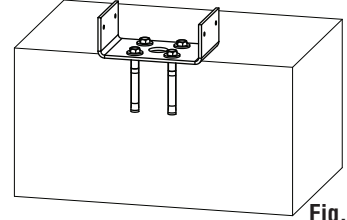

Fig. 5
1.c) Install and tighten nuts to secure mounting bracket. See Fig. 5.